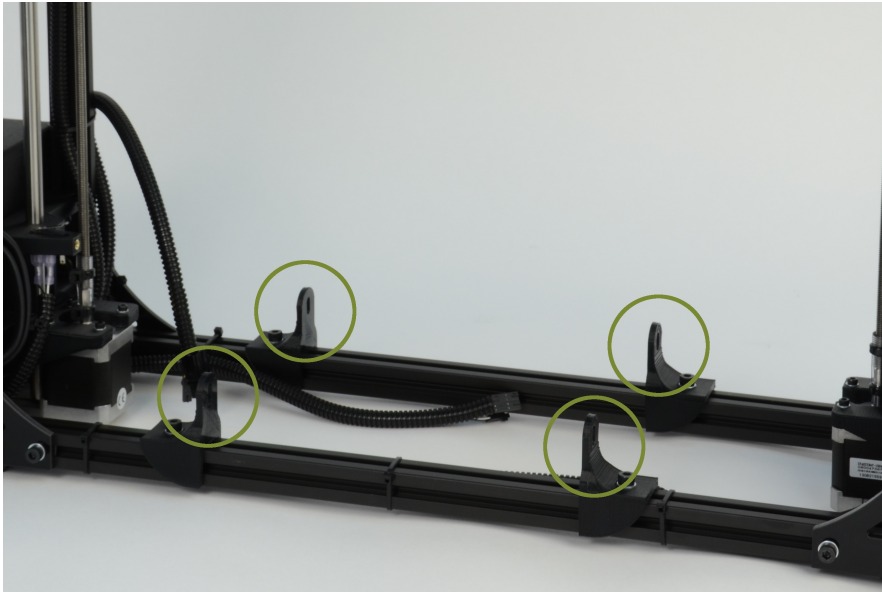
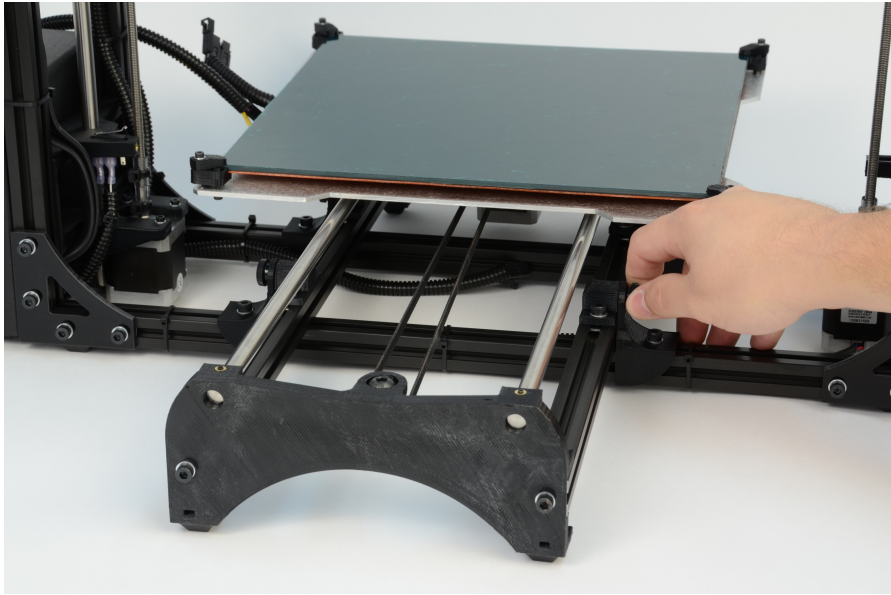

Figure 1.4: Locate the four Y axis mounts on the frame
Figure 1.5: Screw in and tighten the four Y axis bolts
3. On the TAZ frame locate the four Y axis mount brackets shown in Fig. 1.4 (pg. 18). With the print surface facing up and the stepper motor end of the Y axis facing back, slide the Y axis assembly in between the Y axis mount brackets. The four Y axis mount brackets will line up with the Y axis bolt holes on the Y axis assembly. Thread the four Y axis bolts through the brackets, into the Y axis assembly (Fig. 1.5, page 19). Before completely tightening the Y axis bolts make sure the Y axis aluminum bars are pushed down against the TAZ frame lower bars. You can do this by slightly tilting the printer, on the side edge, enough to lift the feet of the Y axis off of the table. The weight of the Y axis will seat it against the TAZ frame. While the printer is slightly tilted tighten the four Y axis bolts. The printer can now be set flat on the table.